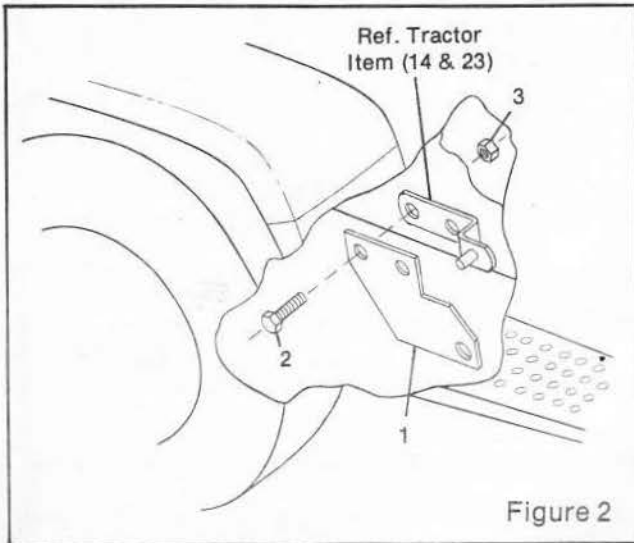

Figure 2
STEP 2 (Figure 2)
STEP 3 (Figure 2)
- A.) Remove existing Tractor bolts, lock washers & nuts item 46, 47, & 48, See Tractor Owners Manual Pages 12 & 13.
- B.) Assemble rear mount bracket and Tractor items (14 & 23) to Tractor, as shown in Figure 2, using four hex bolts, (2), four hex lock nuts (3), and tighten securely.